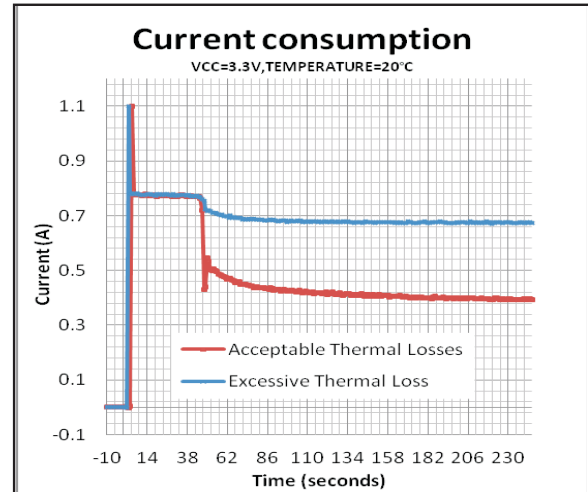
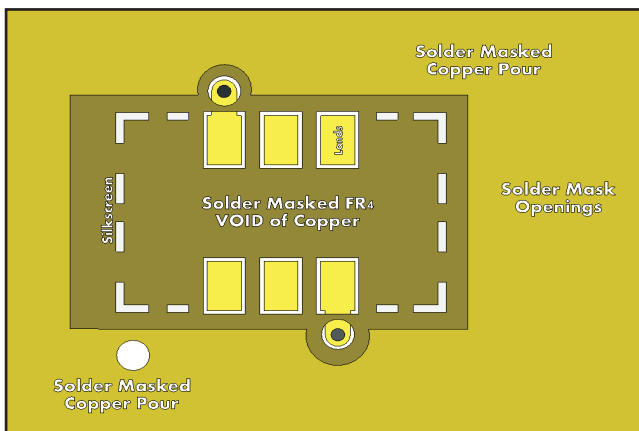

Figure: 16-03
Figure: 16-02
- To reduce unwanted thermal gains/losses, open a window in any top level copper pours under the device. Excessive thermal losses may result in higher than normal current consumption or complete device failure. See Figure 16-03. Excessive thermal gains will overheat the oven core causing frequency instability. FIGURE 16-02 illustrates a how to properly flood a top layer while creating a “window” under the OCXO.